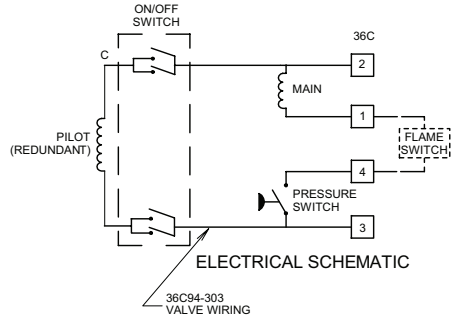

Figure 4. Valve Wiring
12. See **SYSTEM WIRING** when making electrical connections. Connect wires per Fig. 4 Diagram and Fig. 5 Chart.
REFER TO AND FOLLOW THE APPLIANCE MANUFACTURER'S WIRING DIAGRAM. REFER TO FIG. 4 FOR TERMINAL IDENTIFICATION.